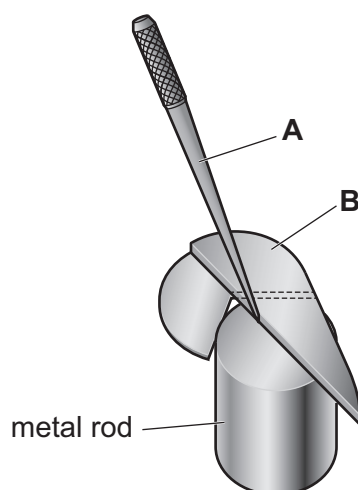

Fig. 4.1
- 4 Fig. 4.1 shows two tools, **A** and **B**, being used on the end of a round metal rod.